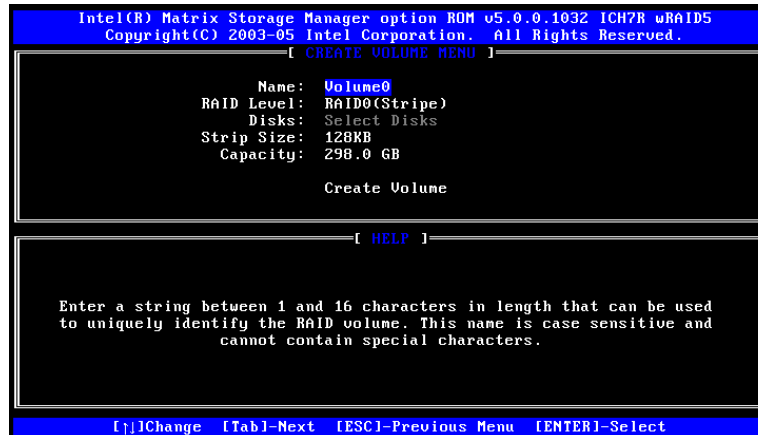

Figure E-2: Create RAID Volume Name
Step 2: Name the RAID volume. Enter a name for the RAID volume, or press **ENTER** to accept the default volume name. Upper and lower case alphabetic, numeric, space, and underscore characters are all applicable for naming an array. See **Figure E-2**.